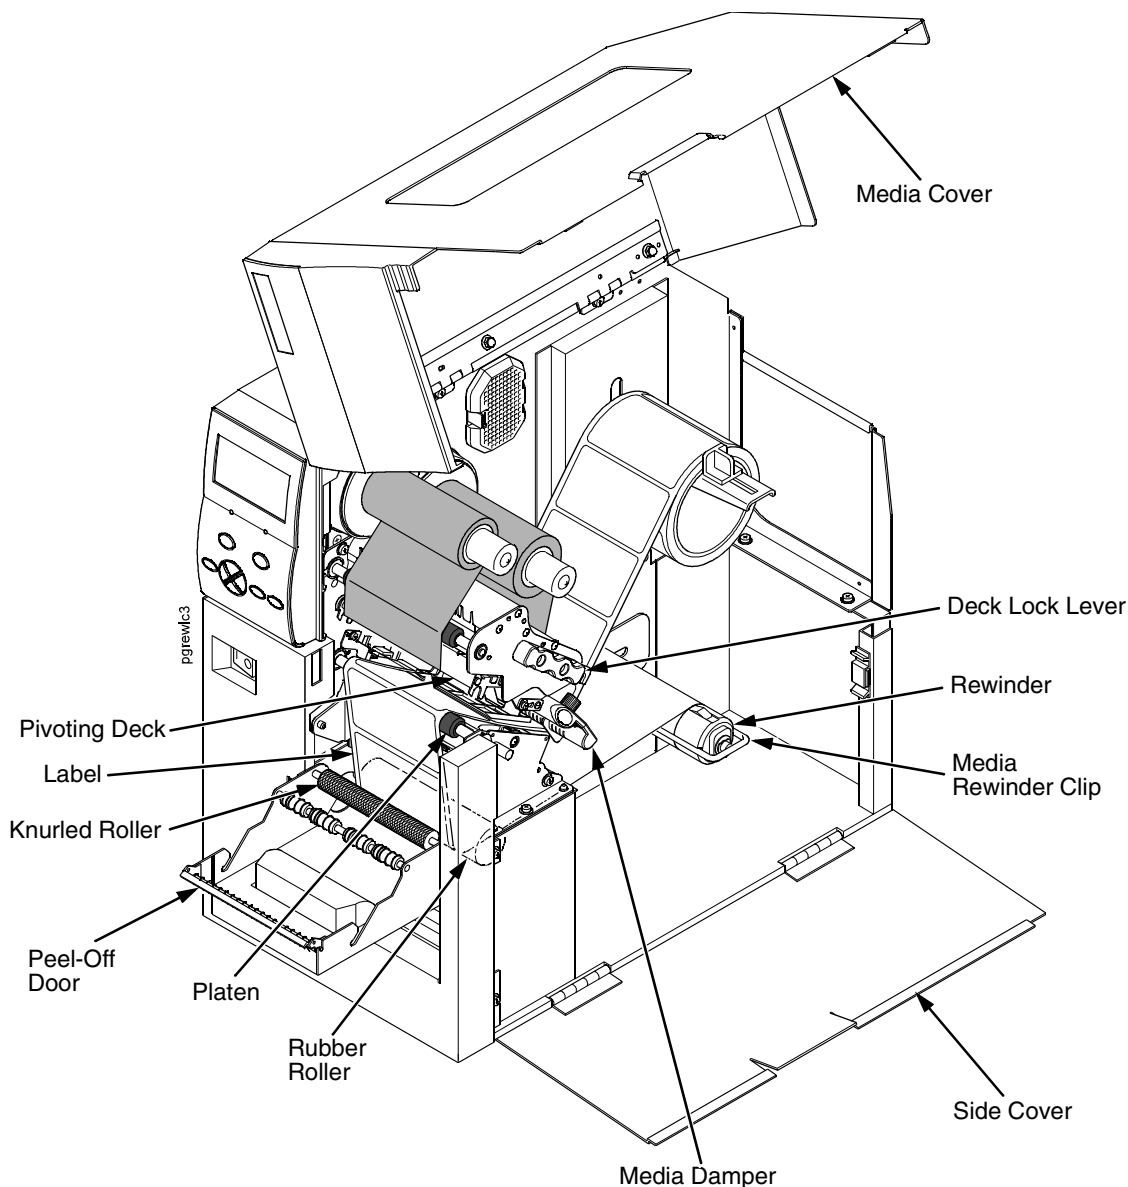
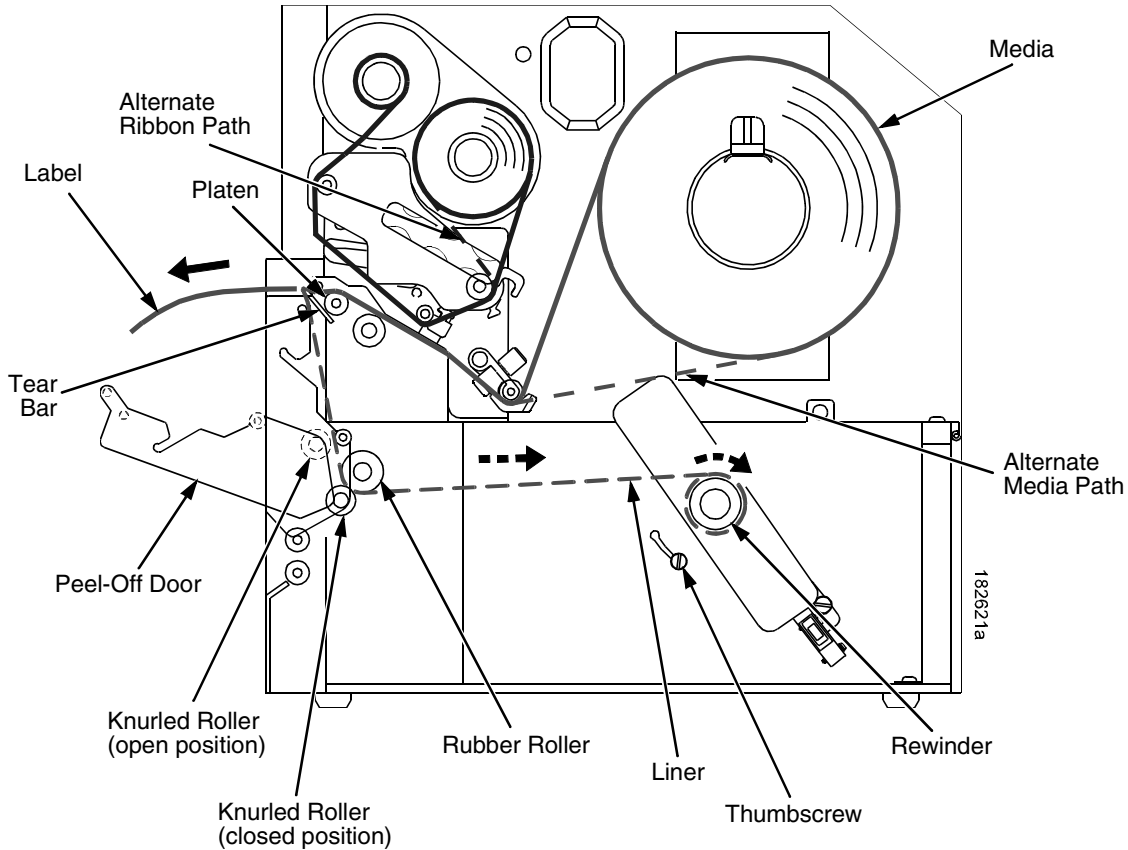

Figure 23. Loading Media on the Standard Peel with Liner Rewinder
Figure 24. Standard Peel with Liner Rewinder Media Path
6. Thread the media under the media damper, over the platen, and in between the knurled roller and the rubber roller. See Figure 23 and Figure 24.